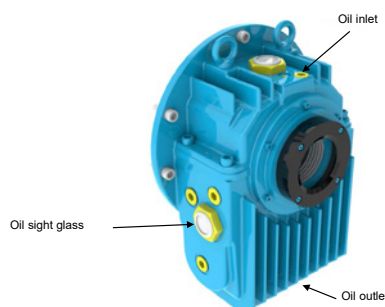

Figure 8.1 – Sleeve bearing
- Drain the oil through the drain hole located at the bottom of the bearing (see Figure 8.1);